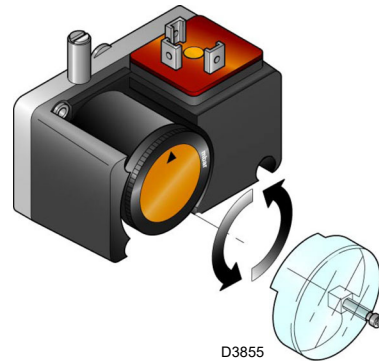

Fig. 30
- Adjust the minimum gas pressure switch (Fig. 30 at page 32) to the start of the scale.
Adjust the minimum gas pressure switch (Fig. 30) after having adjusted the burner, the gas valves and the gas train stabiliser. With the burner operating at maximum output: